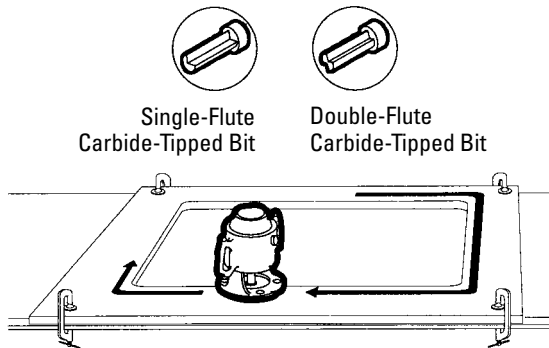

Figure 15
- Make the cutout using a 2 HP to 3 HP router with a 1" (25 mm) template guide and a $\frac{3}{8}$ " (10 mm) carbide-tipped, single-flute router bit (see Figure 15).